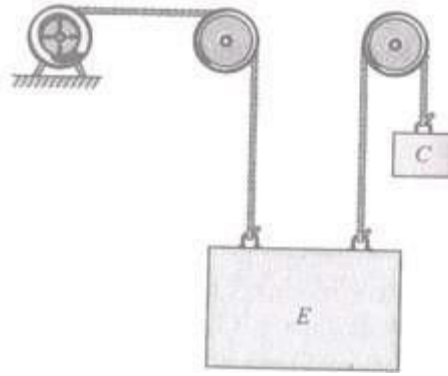

Figure 4
- c. An elevator weighs 10000 N when fully loaded. It is connected to 7500 N counter weight C and is powered by an electric wire as show in the Figure 4. Determine the power required when (i) the elevator is moving upward at constant speed of 20 m/s; (ii) the elevator is moving downward at a constant speed of 20 m/s and (iii) the elevator has an instantaneous velocity of 20 m/s upward and an upward acceleration of 3 m/s². [15M]